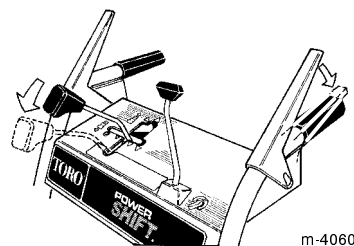

Figure 21
2. Move the speed shift control fully forward to the Power Shift position and hold it there (Fig. 21).
3. Fully engage the traction drive lever to move the wheels into the alternate position (Figs. 21 and 22).